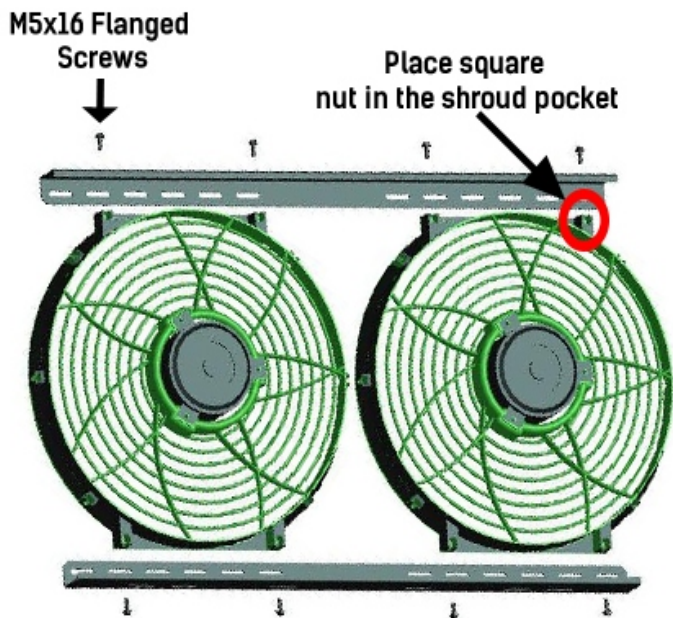

Figure 2
DUAL FAN ASSEMBLY PROCEDURE (Figure 2)
- ❖ Step 2 - Insert M5 square nut provided in to the pocket on the shroud (ref. figure 2)